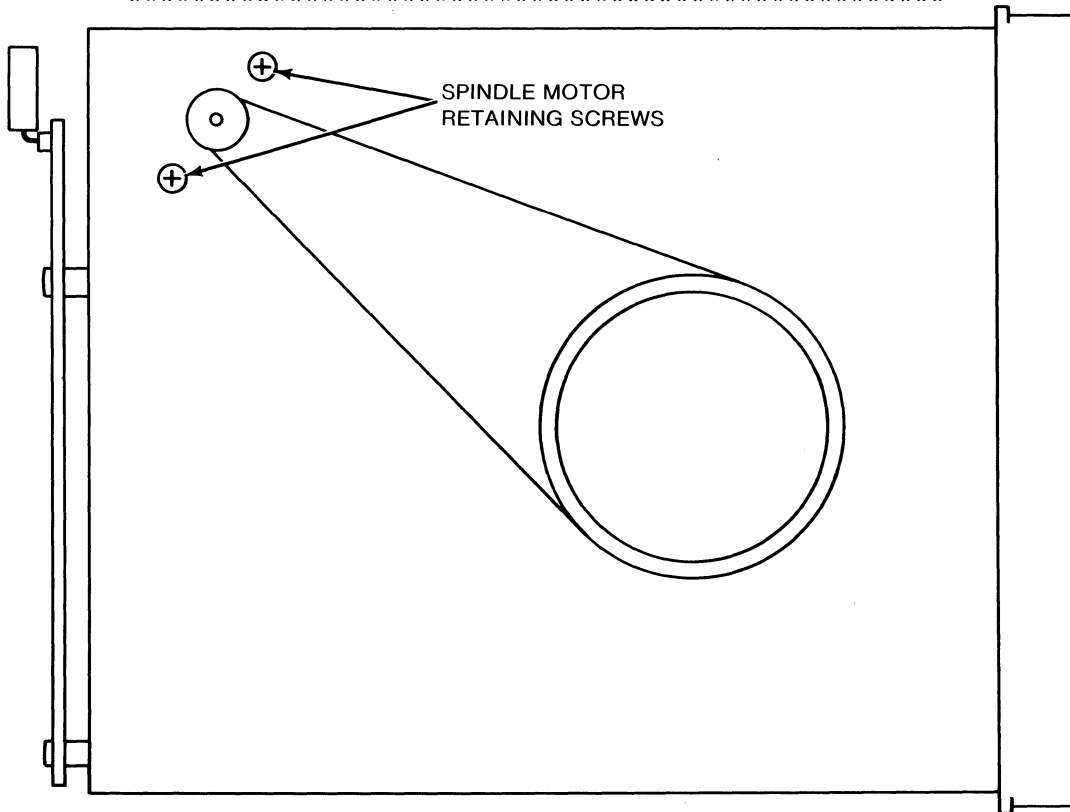

Figure 5-2. Spindle Drive Belt Adjustment
e. Place the spindle motor adjustment tool on the bottom of the drive as shown (see fig. 5-2) so that the small end of the adjustment tool rests against the motor pulley and the large end rests against the spindle pulley.